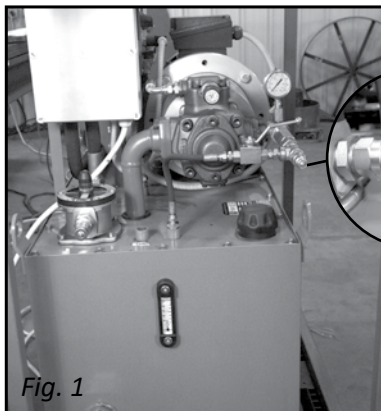

Fig. 1
1. Connect machine to hydraulic power supply (Fig. 1) with the capability of minimum pressure of 100 bars at 72 L/min. with 25 micron filter and air-cooled heat exchanger.